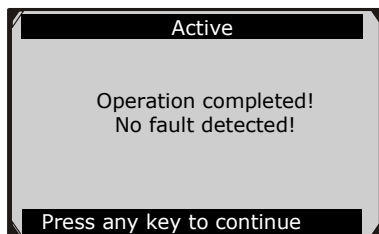

Figure 10.23
- 2) In the Active menu, use the **UP/DOWN** button to select the desired actuator to begin test. If the selected actuator works correctly, the tool will display a confirmation message as below (Figure 10.23). Otherwise, it will display a message to remind user of a problem. After you exit the diagnosis program, please repair the problem immediately.